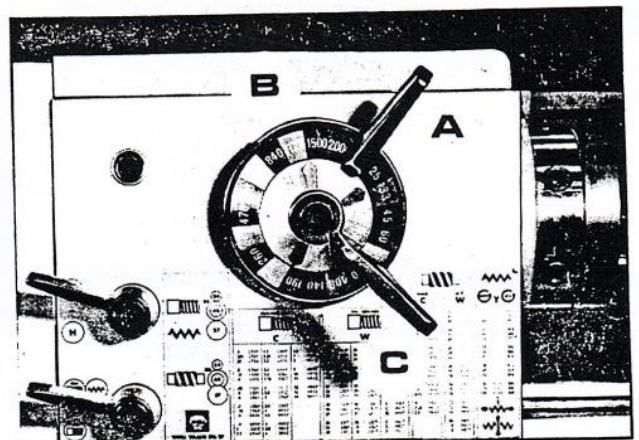

Fig. 10
**Spindle speeds:** Selected by the grouped dial controls on the headstock (Fig. 10).